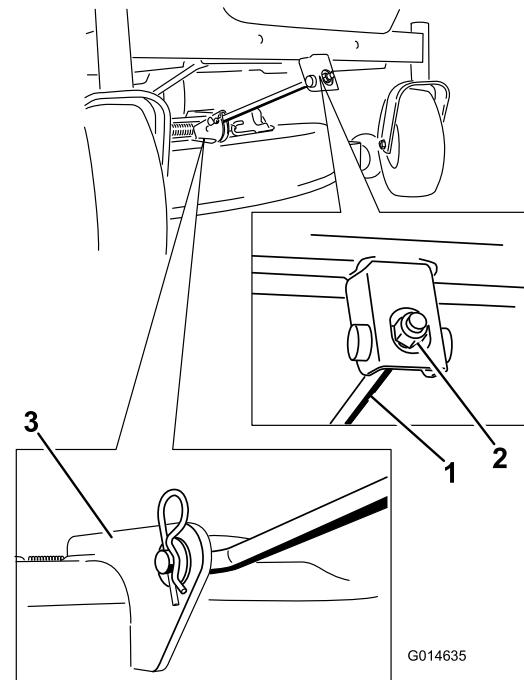

Figure 68
6. Attach the front support rod to the mower deck with the clevis pin and hairpin-cotter pin (Figure 68).